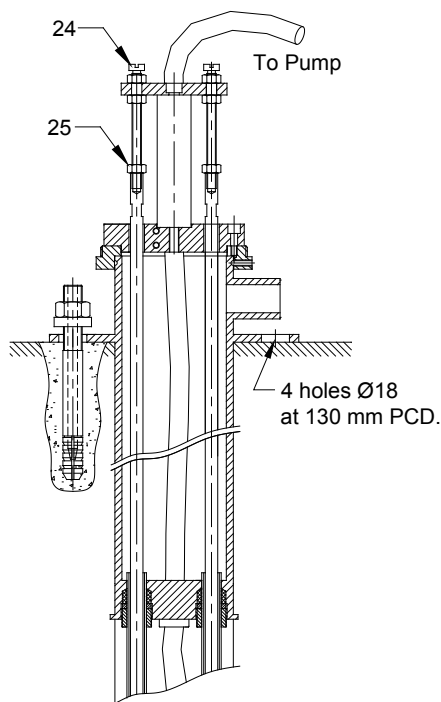

Figure 3.2 – Setting arrangement for 3pt BHE
3.3.11 Assemble cheese head screw (24) and locking nuts (25) as shown in figure 3.2. Slightly loosen hollow bolts (12) related to holes '1', '2' and '3'. Adjust end of connecting rod in required position and tighten the lock nuts (24). To set connecting rod ends, refer to table below: